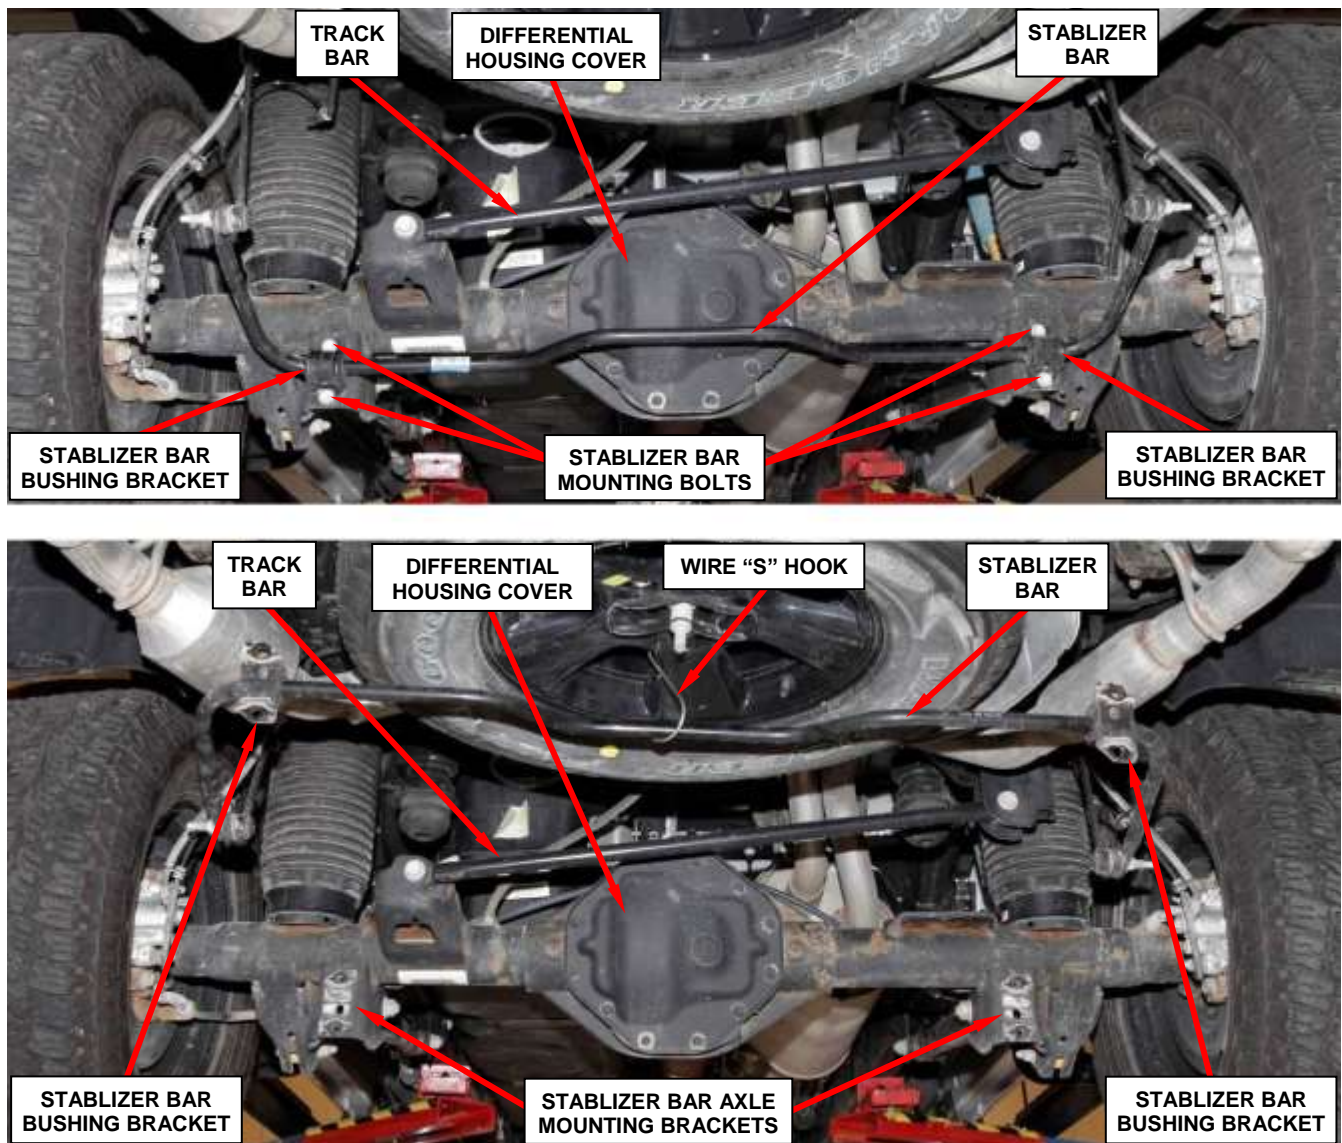

Figure 3 – Relocate Stabilizer Bar to Gain Clearance to Differential Housing Cover
3. Remove and save the four stabilizer bar mounting bolts at the axle mounting brackets (Figure 3).
4. Swing the stabilizer bar back towards the spare tire and secure the stabilizer bar with a hook (Figure 3).
25. Place the stabilizer bar into position and install the four retaining bolts. Tighten the bolts to 37 ft. lbs. (50 N·m) (Figure 3).